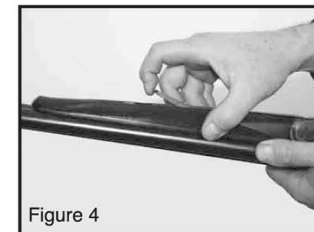

Figure 4
- Remove the fore-end from the barrel (Figure 4 & 5).